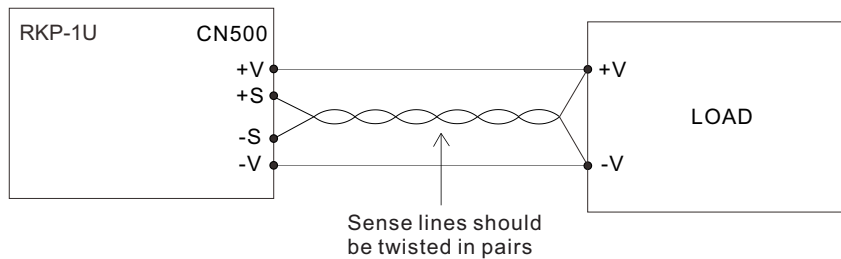

Figure 3-5 Connection for using the "Remote Sense" function
- ⊙ When using this function, the sensing wires should either be twisted or shielded to prevent external noise interference (refer to Figure 3-5).